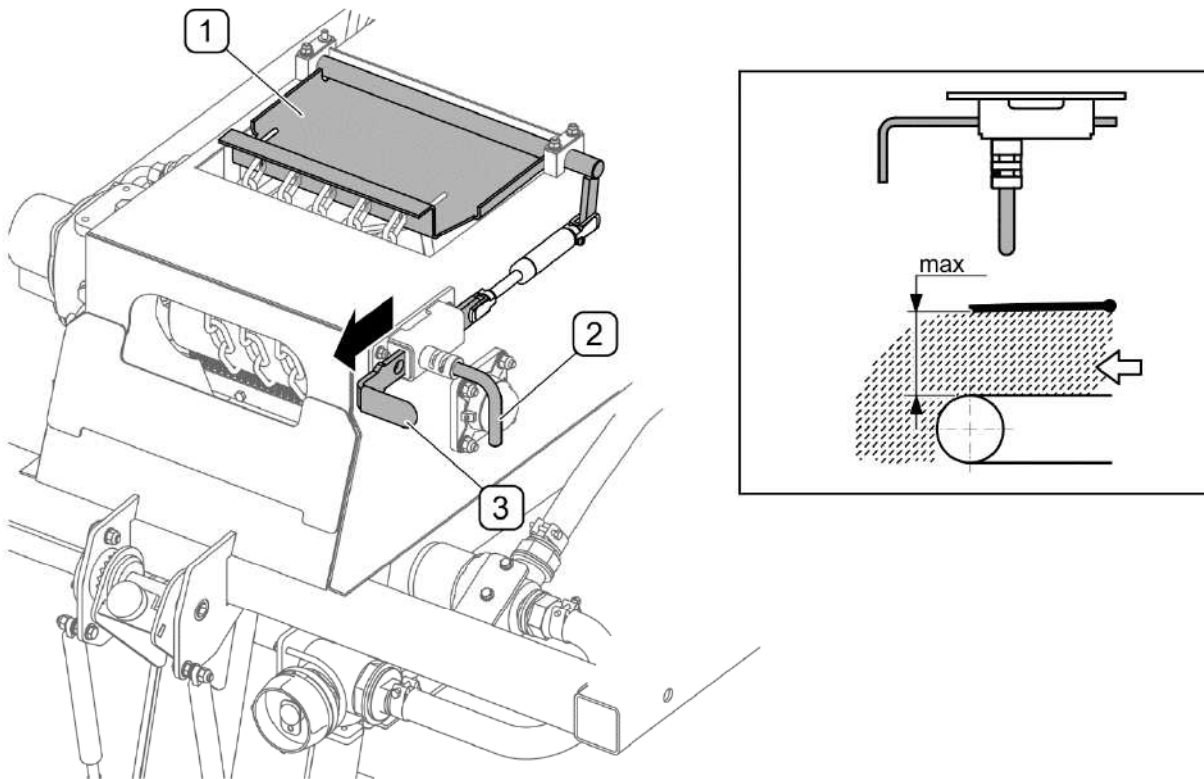

FIG. 4.34 Setting the belt conveyor shutter for unloading
- set belt conveyor shutter to maximally open position (FIG. 4.34),
To set the shutter (1) for unloading, (FIG. 4.34) turn and pull pin (2) and raise the shutter by pulling the slide (3). The shutter is set to maximally open position (FIG. 4.34) only when material is being unloaded from the tank.